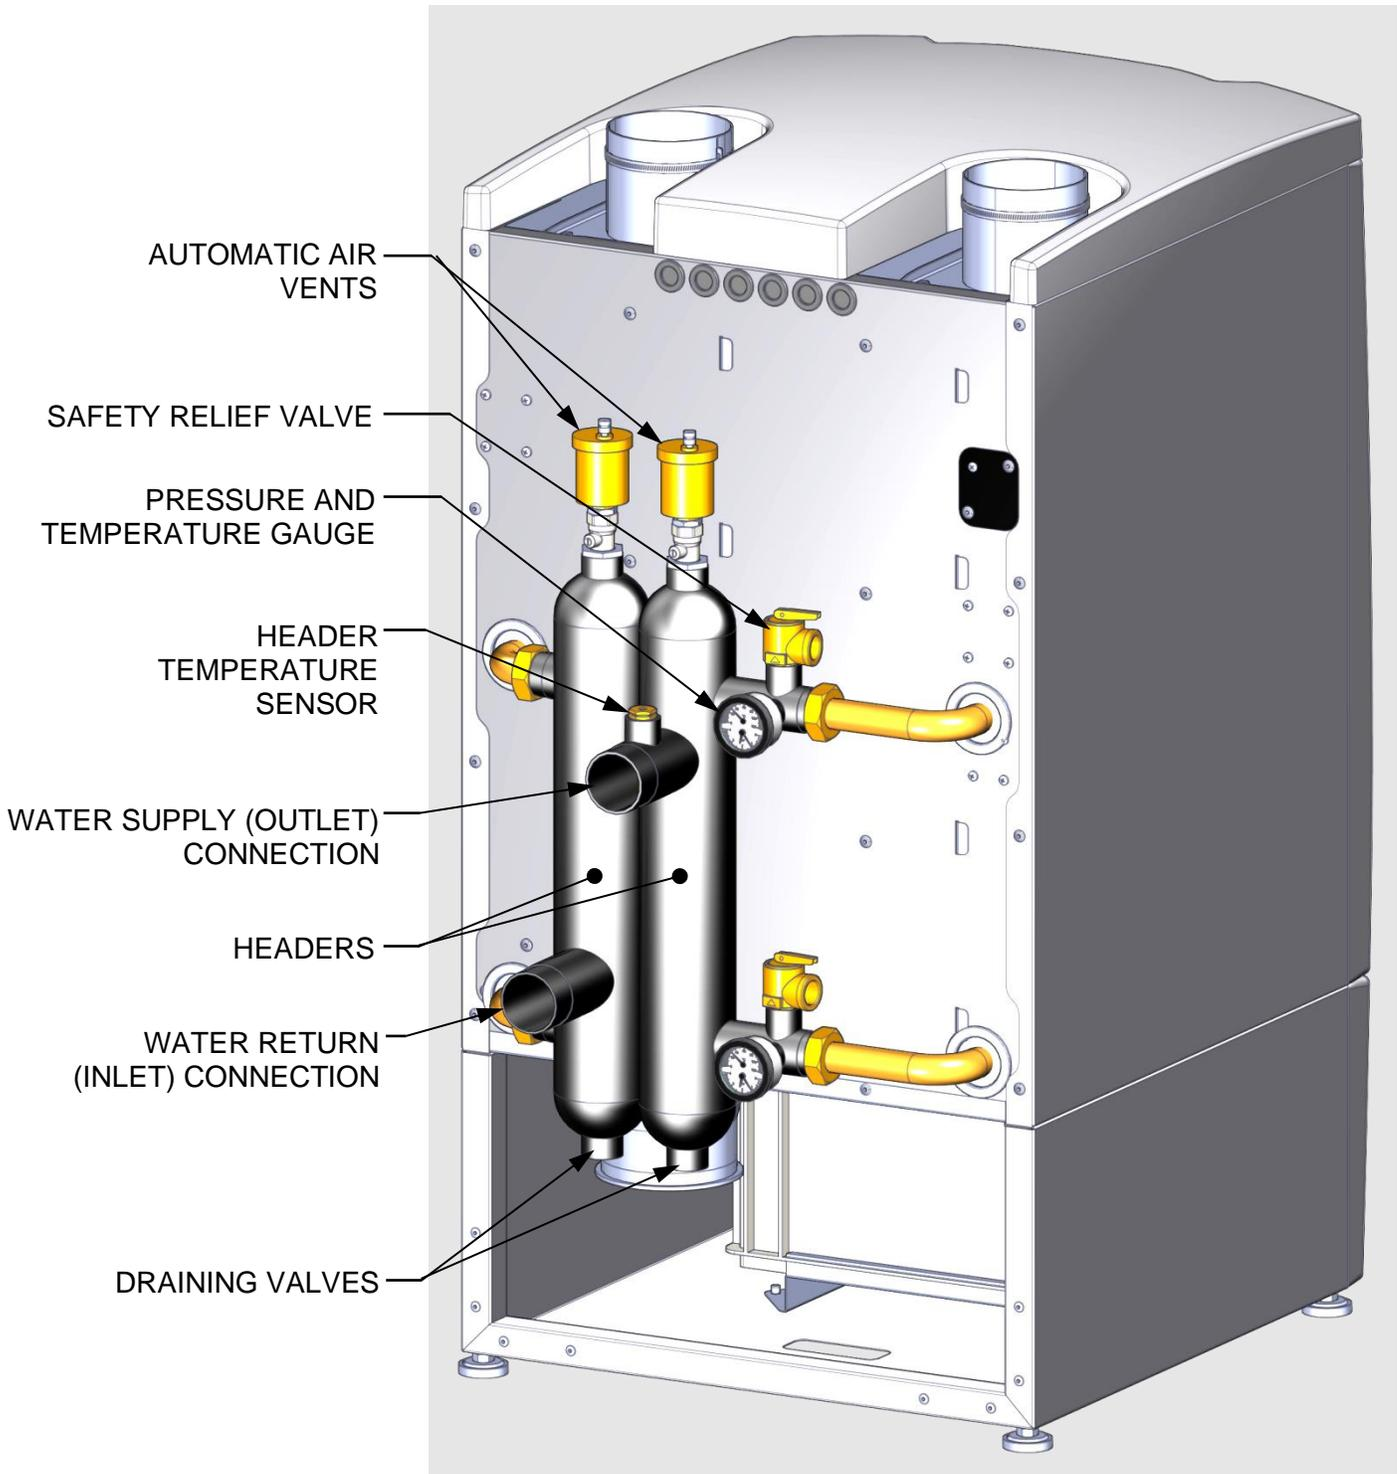
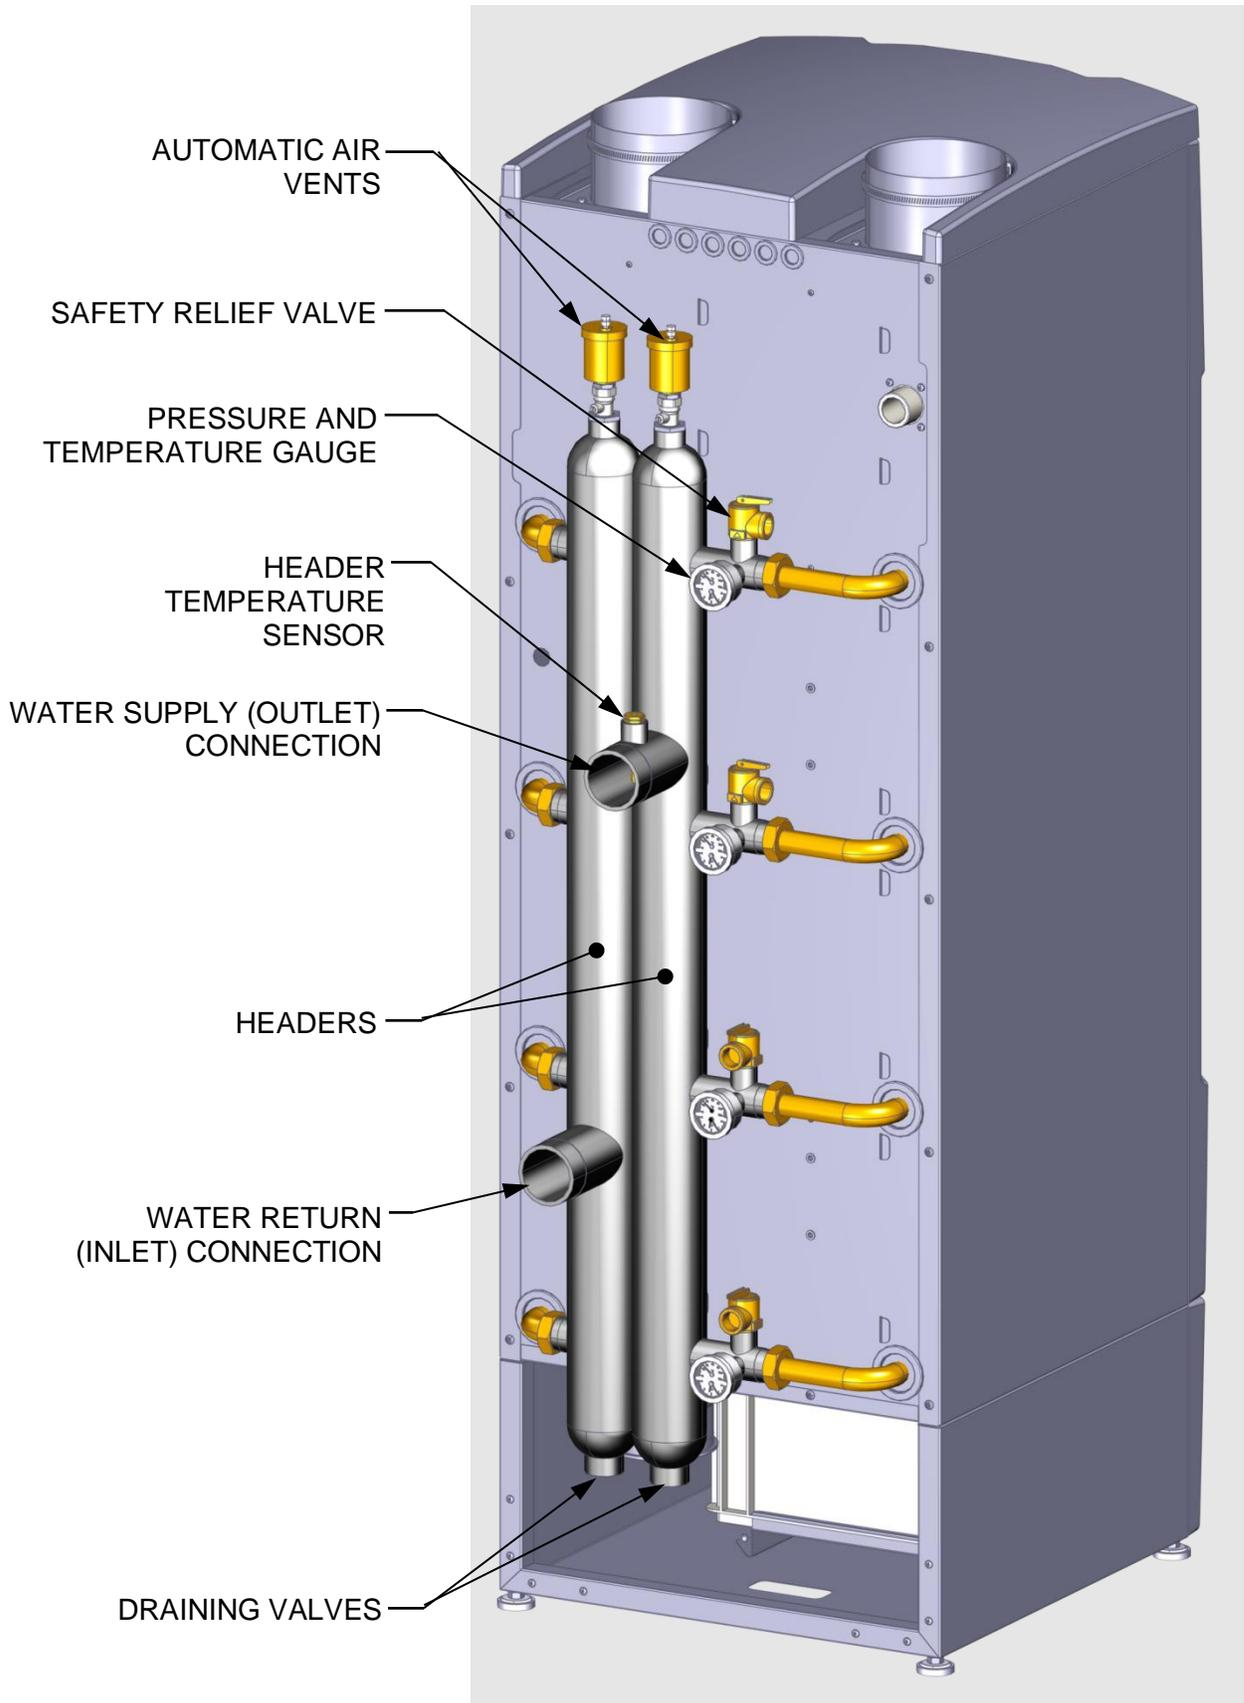

Figure 6a: AM 399/500 Rear Panel Connections
Figure 6b: AM 750/1000 Rear Panel Connections
AM Series units come standard with automatic air vents on each of the headers on the rear (see Figures 6a and 6b). These vents are for the unit only, *not* the entire heating system. An effective air vent for the entire heating system must be installed at the highest point of the system piping.
The boiler is equipped with its own header drains (see Figures 6a and 6b for the drain locations). **NEVER USE IT TO DRAIN THE ENTIRE SYSTEM**, since the system dirt could gather in the boiler and compromise its operation. The system itself shall be equipped with its own drain, whose size will depend on the system capacity.
- The filling can also be done through the draining tap on the boiler return manifold (see drain valve locations in Figure 6a and Figure 6b).